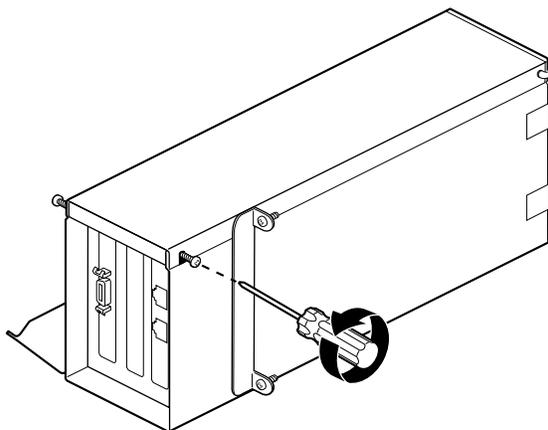

Figure 1-11 Loosening the Screws From the PCI Module
1. To begin installing PCI cards, turn the PCI module as shown in Figure 1-11.